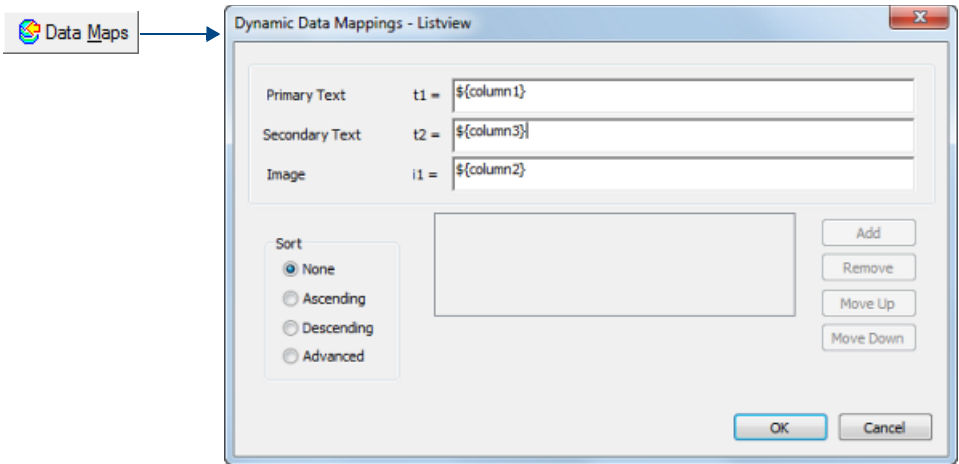

FIG. 168 Dynamic Data Mappings - Listview dialog (with example data indicated)
3. Click the **Data Maps** button to access the *Dynamic Data Mappings - Listview Buttons* dialog (FIG. 168):